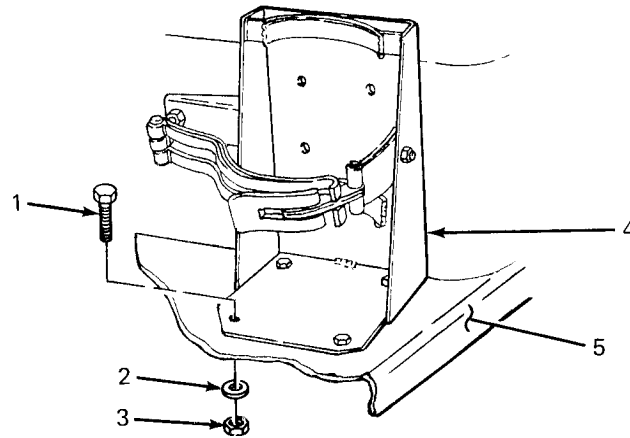

Figure 4-7. Fire Extinguisher Bracket Replacement.
**4-19. Fire Extinguisher Bracket Replacement.** (See figure 4-7.) The fire extinguisher supplied with the power unit is carried in a bracket mounted on the trailer front roadside step.
- (1) Remove four screws (1, figure 4-7) four flat washers (2), and four nuts (3) securing bracket (4) to step (5).
- (2) Remove bracket (4) from step (5).